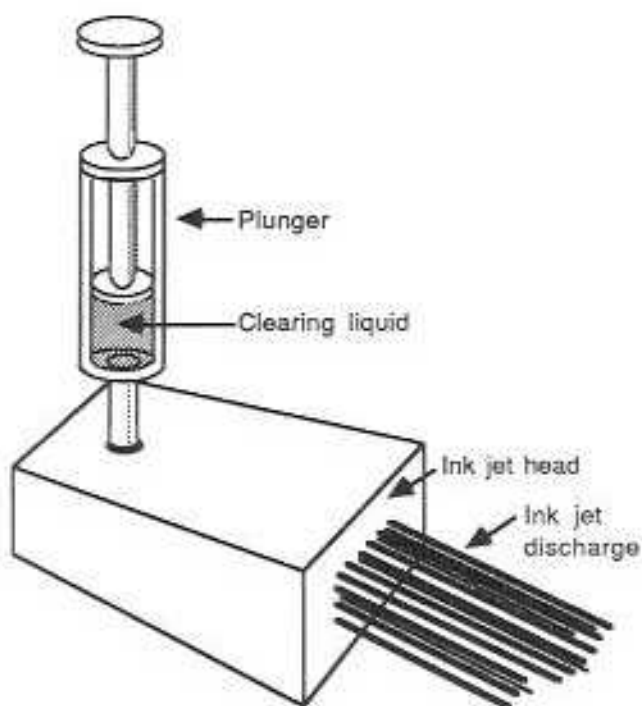

Fig. 9-9. Clearing the ink jets with a plunger.
3. If the system does not have a purge cycle, or if the purge cycle is unsuccessful, you may need to use a plunger to force liquid through the jets (Fig. 9-9). In most cases, the manufacturer will be able to supply you with a plunger that fits your computer and a special liquid to clear the jets. You should not use water or solvents for this purpose; They can (and almost always do) damage the jets. For more information about your specific computer, contact the manufacturer.